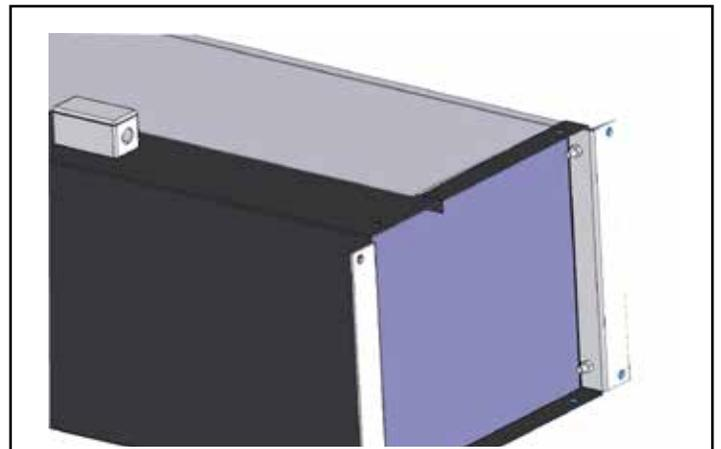

Figure 7 - Floor Mounting Brackets
- C. To vertically mount a IDC12/IDC14 Series unit using optional Floor Mounting Brackets, bolt brackets on the inside of the end plate with (4) M12 - 15 x 25 bolts as shown in **Figure 7**.